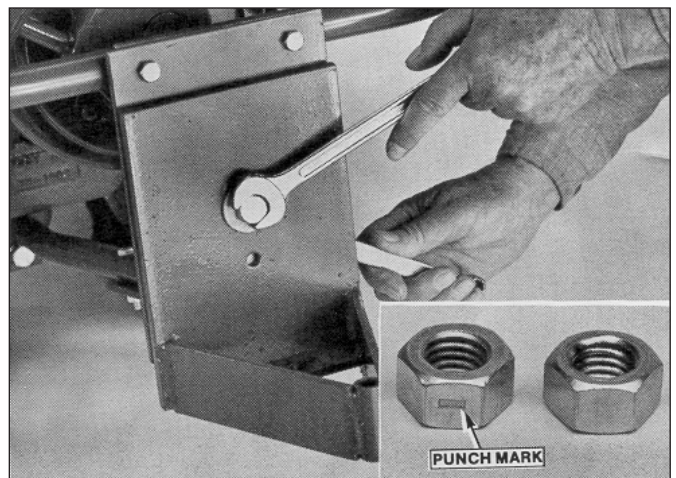

Figure 5: ATTACHING THE SWIVEL BRACKET (A-FRAME)
2. Secure the brackets together by inserting a 1/2"-13 x 1-1/2" screw (4, Figure 1) with flat washer (12, Figure 1) and bushing (11, Figure 1) through both large holes and fastening with a lock washer (3, Figure 1) and a **plain** 1/2" hex nut (10, Figure 1), and tighten securely. See Figure 5.
NOTE: Two different 1/2" nuts are included with this attachment (10 & 15, Figure 1). One is a lock nut (with a punch mark) and the other is a plain hex nut. See inset of Figure 5.